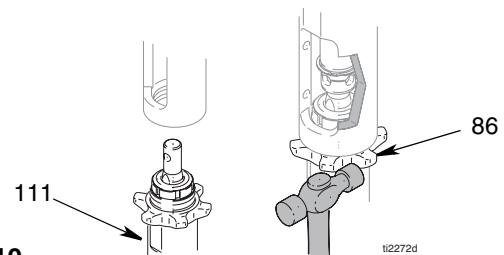

FIG. 10
1. (Fig 10) Screw jam nut (86) to bottom of pump (111) threads. Screw pump (111) completely into manifold. Unscrew pump (111) from manifold until pump outlet aligns with hose. Hand tighten jam nut (86), then tap 1/8 to 1/4 turn with hammer or torque to 75 ft-lb (101 N·m).